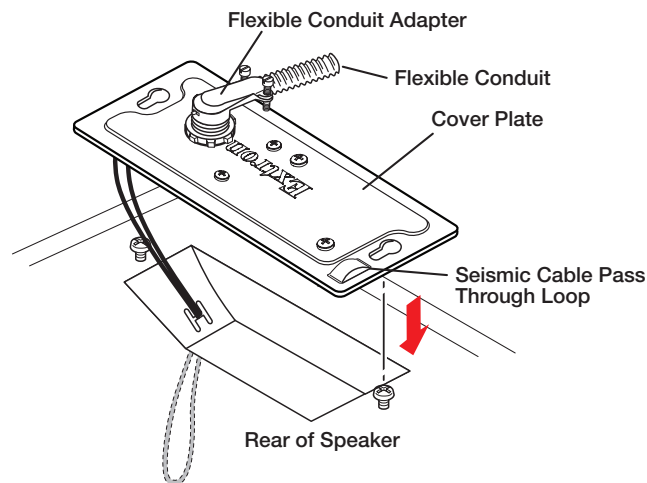

Figure 6. Routing the Cables through the Cover Plate Using a Flexible Conduit
- Insert the conduit into the cover plate opening using an appropriate conduit adapter, and secure the conduit to the plate as shown in figure 6.